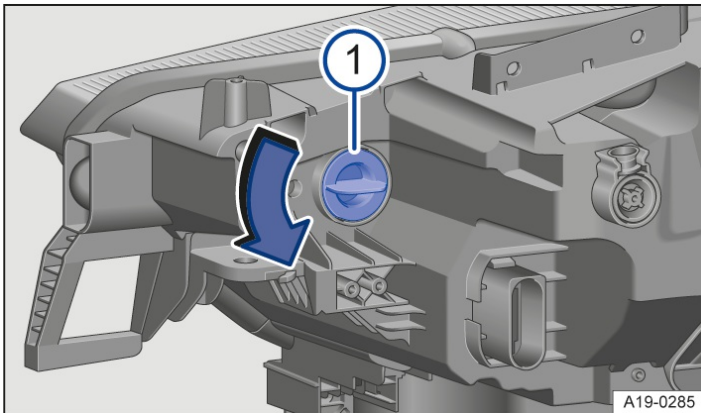

Fig. 1 Rear of the right headlight: changing the turn signal bulb.
3. Turn the bulb holder → Fig. 1 ① in the direction of the arrow and pull it out.